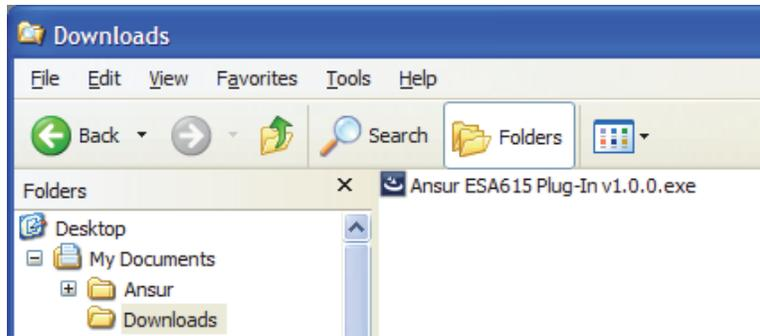

Figure 2-1. ESA615 Plug-In Installation File Location
1. Open **Windows Explorer** and browse to the directory where the Plug-In installation file you downloaded is stored. The file name looks like **Ansur ESA615 Plug-In Vn.n.n.exe**, where n.n.n is the Plug-In version number. See Figure 2-1.